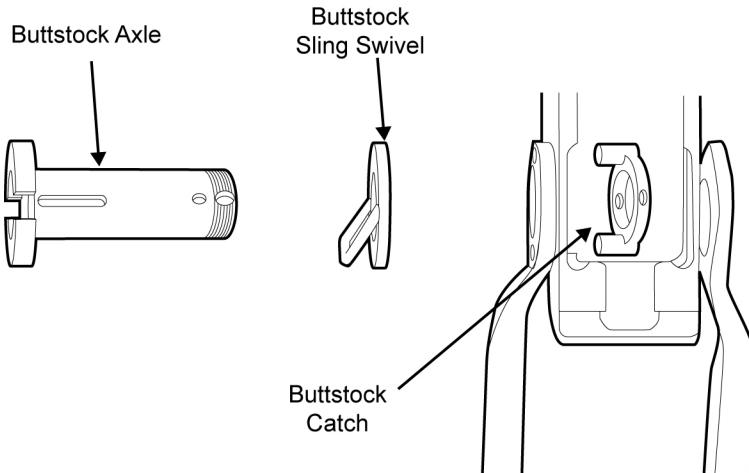

Figure 33. Removing the Buttstock Axe, Buttstock Sling Swivel, and Buttstock Catch.
f. Remove the buttstock axle from the receiver, remove the buttstock sling swivel from the buttstock axle, and remove the buttstock catch from inside the receiver. Remove the folding buttstock from the end of the receiver. Refer to Figure 33.